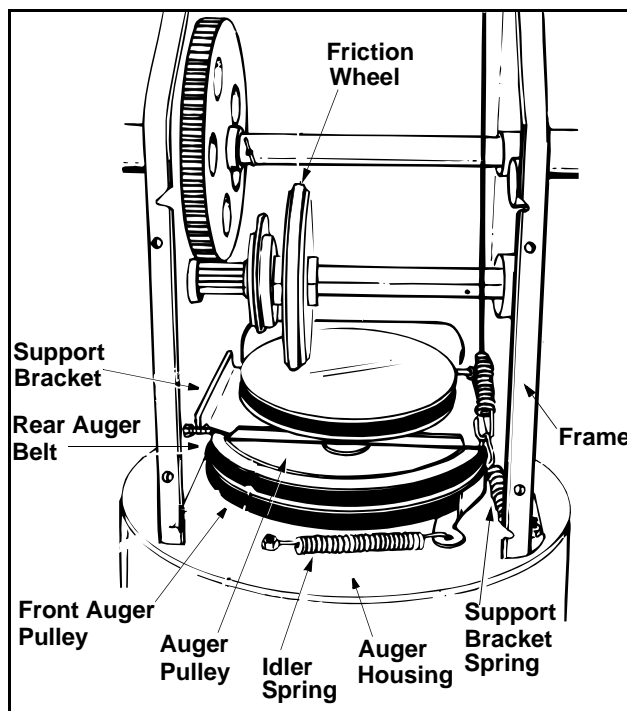

Figure 22
6. Unhook the idler spring from the hex bolt on the auger housing. See Figure 22.